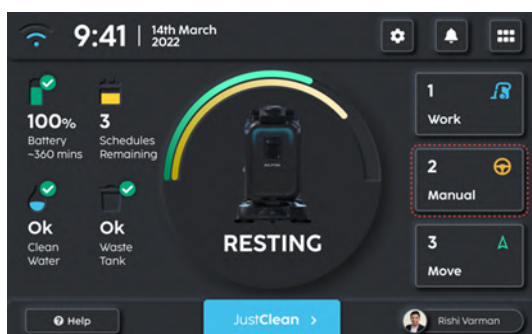

FIGURE 6-22
1. For Pro mode, select the 'MANUAL' button (**Fig. 6-22**) on the Pro mode home screen.